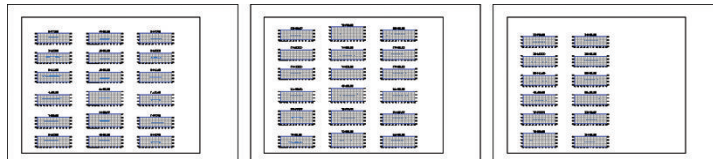

FIGURE 10.9 Newly created section views configured by sheet
10. Click a point in the upper-right viewport in the open area to the north of the project. Three new section sheets should be created (see Figure 10.9).